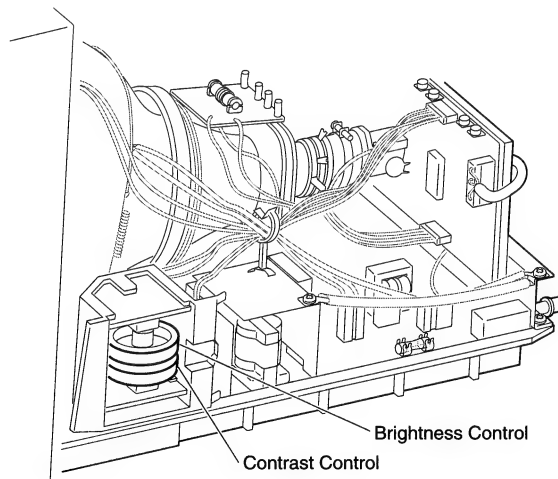

Figure 11 Brightness and Contrast Controls
3. FIGURE 11. Set the brightness and contrast controls to maximum (turn the knobs away from the screen).